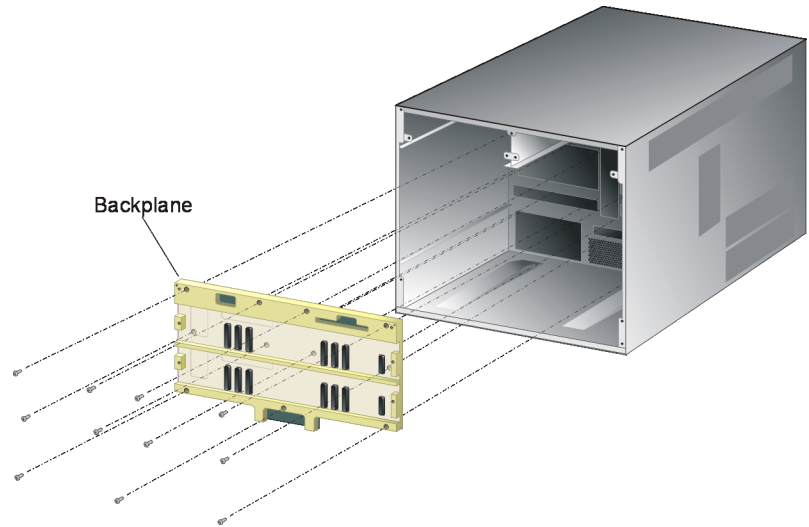

Figure 5-14 Backplane Removal and Replacement
13. The backplane is secured to the director chassis with 11 panhead Phillips screws (*Figure 5-14*).
- b. Align the guide pins on the back of the backplane with the alignment holes in the director chassis (Figure 5-14).